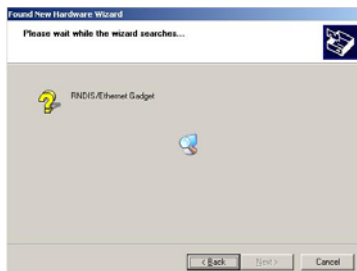

FIG. 34 Found New Hardware Wizard while searching for the driver
8. The Windows XP machine now searches for the suitable driver (FIG. 34).